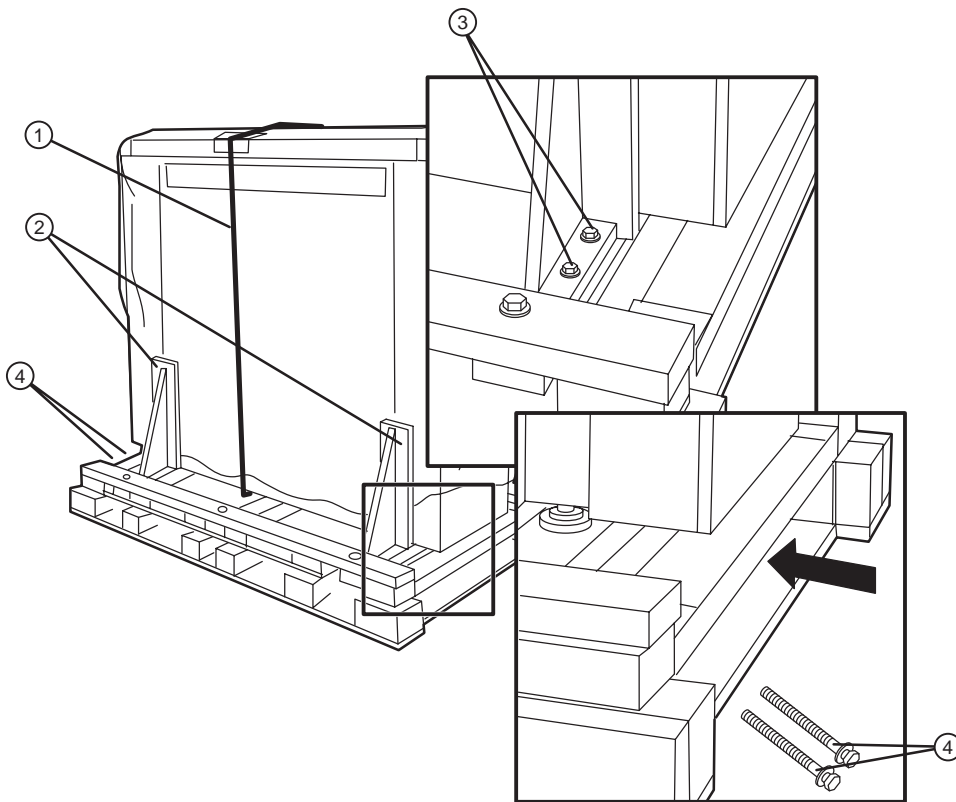

Figure 1-3 Removing the rear outriggers and pallet bolts.
- ①—Foam spacers (2). ②—Box cover.
③—Shipping straps (2).
- Using a 7/16" hex wrench, remove the two (2) bolts in each of the outriggers at the bottom rear of the unit. Refer to Figure 1-3.
- Using a 9/16" hex wrench, remove the two (2) bolts from the bottom left and two (2) bolts from the bottom right of the pallet. Refer to Figure 1-3.